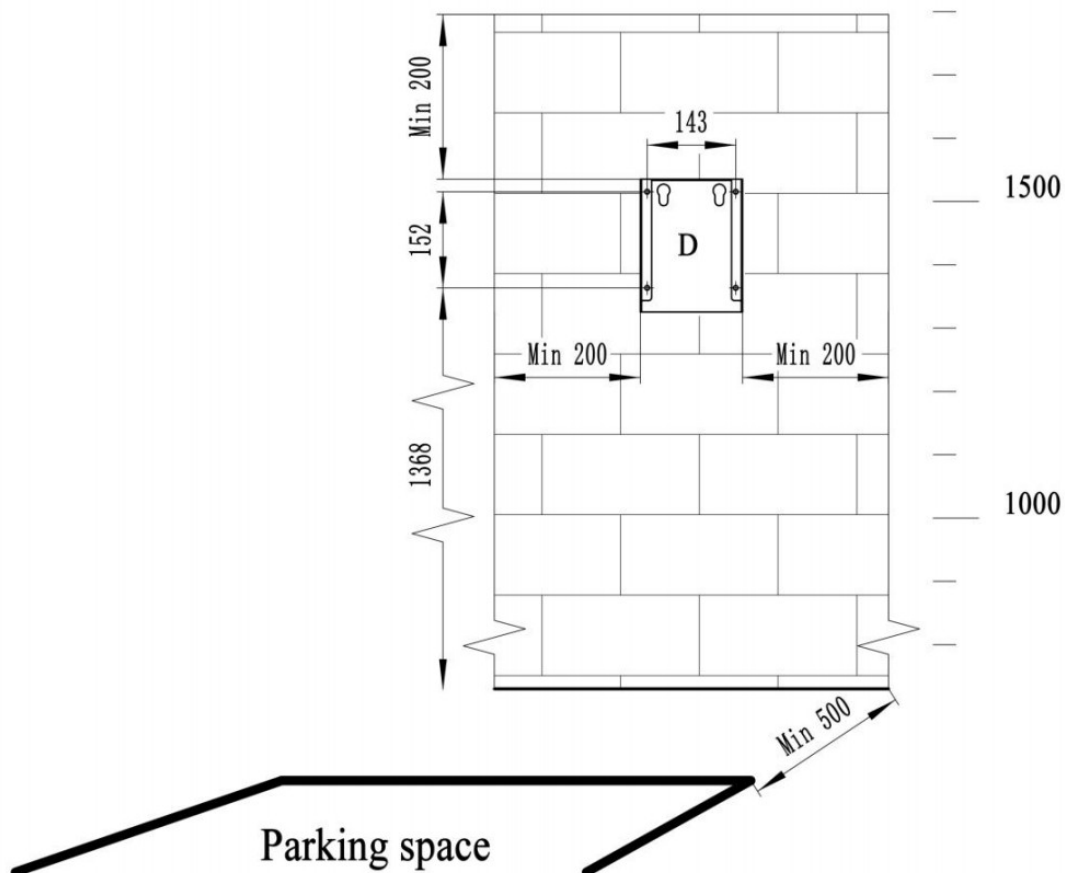

Fig. 5-2 M3P accessories-D mounted on the wall
- a) Mounted the M3P accessories-D on the wall is shown in Fig. 5-2. As the figure, drill 4 holes of 10mm diameter and 50mm depth at the appropriate height, spaced 143mm×152mm apart, and secure the accessories-D to the wall with expansion screws.